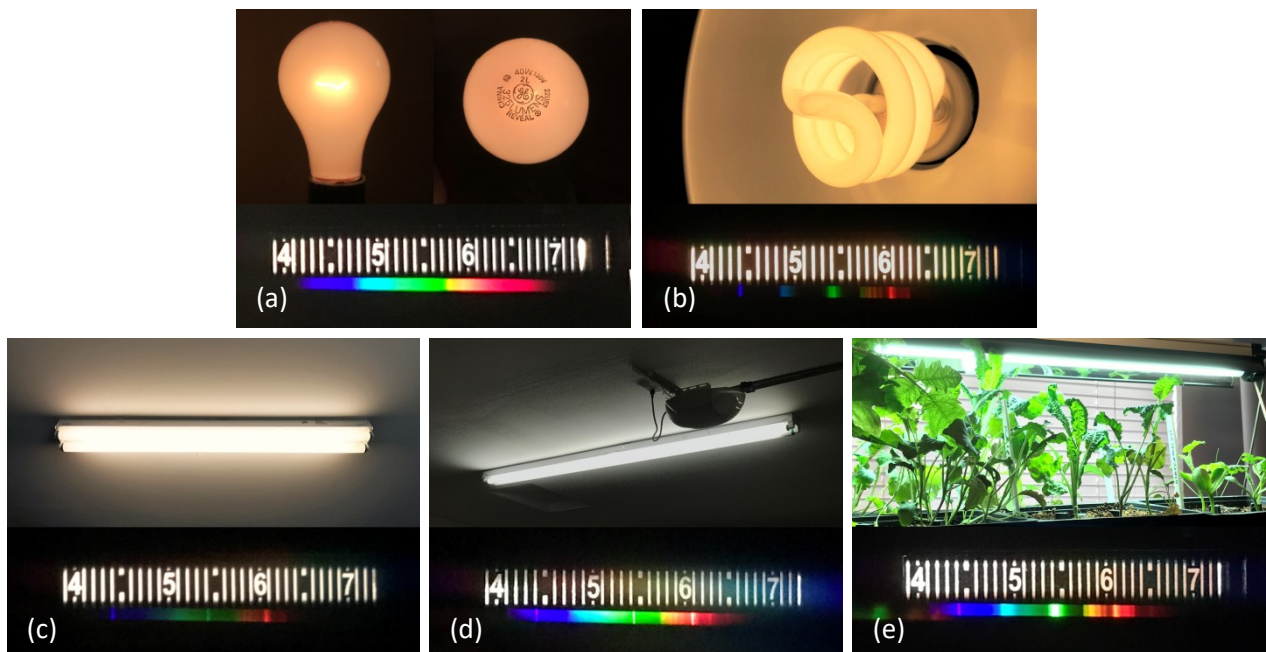

Fig. 6: Spectra of various household light sources.
4. Aim the spectroscope at various light sources around your home and describe the spectrum of each. We have included a few pictures taken through the spectroscope for comparison (see Fig. 6).